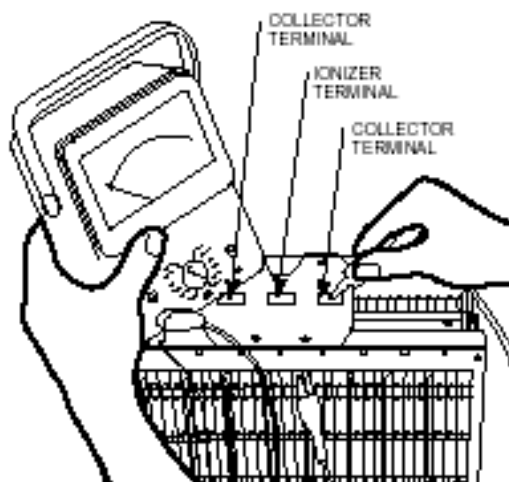

Fig. 16. Use an ohmmeter to check electronic cell for short circuits.
- Ohmmeter with 25 kVdc probe (Fluke model 80K -40 H.V. or equivalent). See Fig. 16.